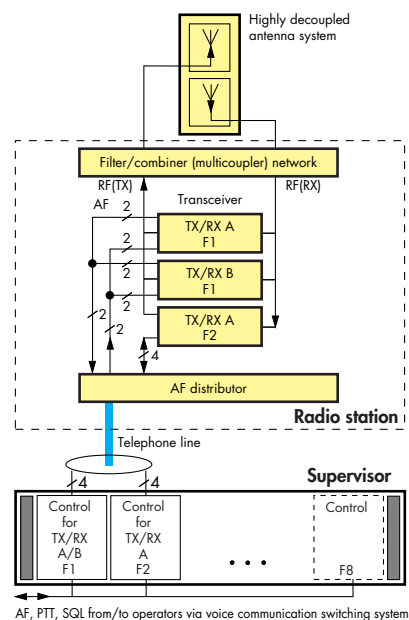

FIG 3 Analog (AF) inband RCMS for VHF-UHF radio station with transceivers with one redundant (F1) and one normal channel (F2)
**Audio inband technique** via four-wire telephone lines. With this option the leasing fees for point-to-point telephone lines, especially for transceivers, can be reduced considerably. A carrier frequency (2040 or 2440 Hz) is nested into the two bidirectional audio spectra (FIG 3). The combination of 4FSK and AM modulation as well as the use of a digital 24-bit signal processor with high computing power of 20 MIPS allows around 20 remote control and monitoring functions including the time-critical functions PTT and AGC/squelch to be modulated and demodulated.